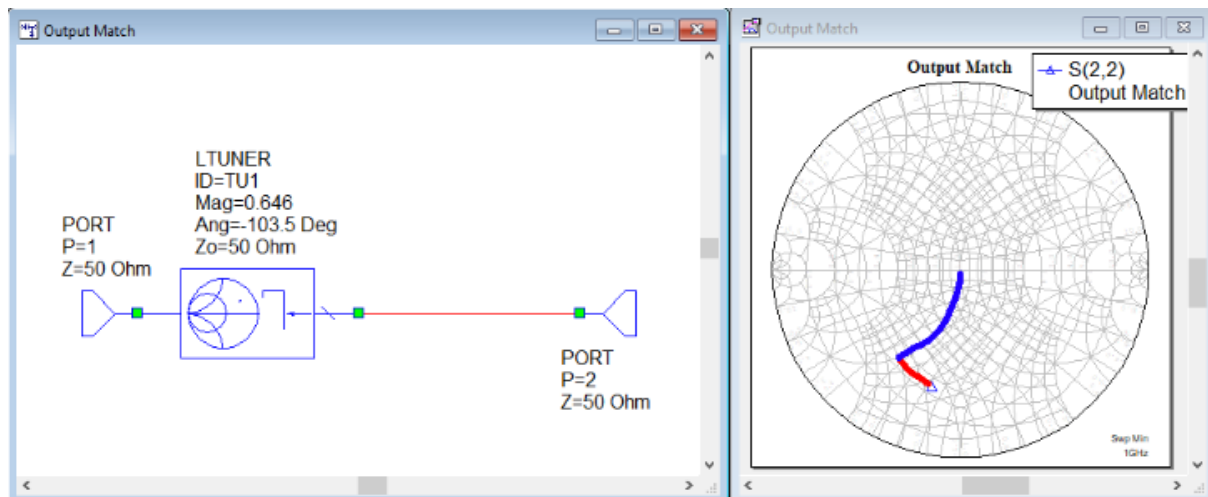

Fig. 8 Schematic with LTUNER with GM2* reflection and a Smith Chart with intended matching.
- In a similar way create an Output Matching schematic and place in it LTUNER with $GM2^*$ reflection and two ports, as shown in Fig. 8.